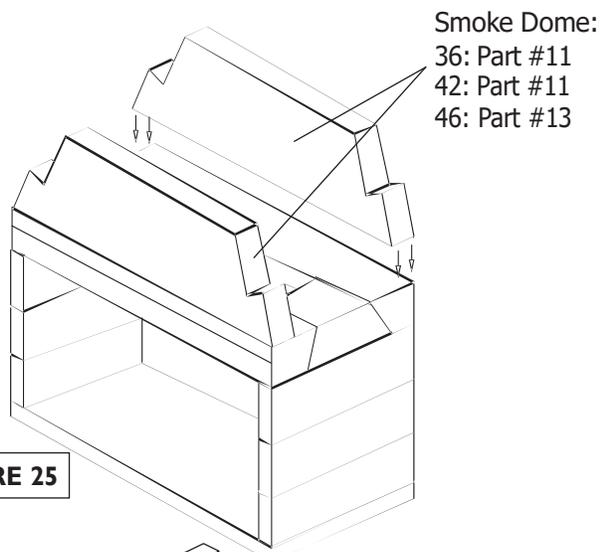

**FIGURE 23**
The two (2) lintels will be equal to the width of the fireplace model that they serve. Properly placed, the lintel is to sit on top of the firebox back wall and flush with it; the other lintel sits flush with the front of the firebox, spanning the firebox opening. These components both sit on their narrow base so that their beveled face points down and into the firebox interior. **(Figure 23)**
7. With the damper beams assembled and Earthcore adhesive together, set the cast iron throat damper (unless another damper type is being used) on top of the damper beam and over the smoke chamber opening. The cast iron damper's operating plate should face toward the rear of the fireplace. **(Figure 23)** The flange at all four sides of the cast iron damper should be supported by the damper beam's top surface.